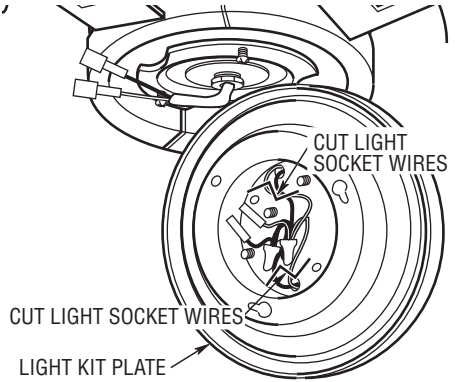

Figure 22
- 2. Disconnect the black wire of the light kit plate from the black wire of the fan motor/housing assembly. Disconnect the white wire of the light kit plate from the white wire of the fan motor/housing assembly (Figure 22).